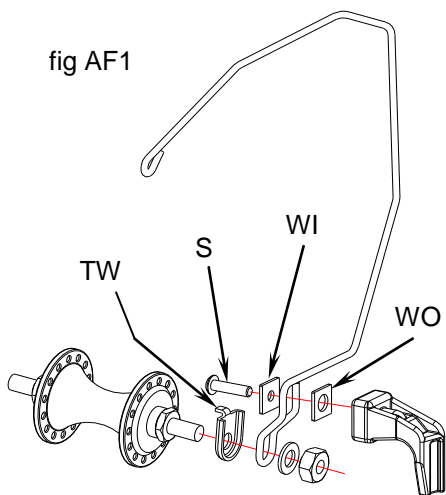

fig AF1
5. Fit the front wheel. On reassembly, the build at the LH end is as follows (fig AF1): working outwards from the fork blade, the components are a) special tab washer TW (engaging the hole in the fork blade), b) mudguard